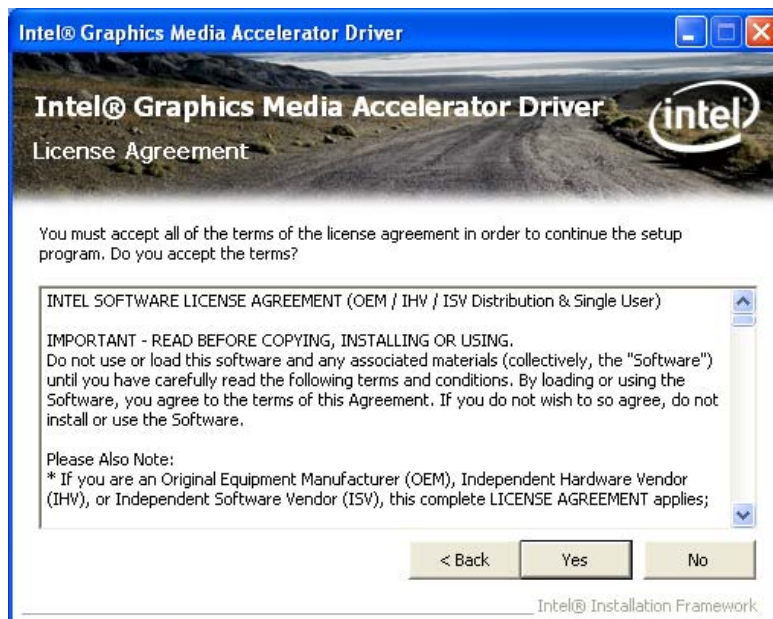

Figure 7-10: Graphics Driver License Agreement
Step 10: The License Agreement in Figure 7-10 appears.